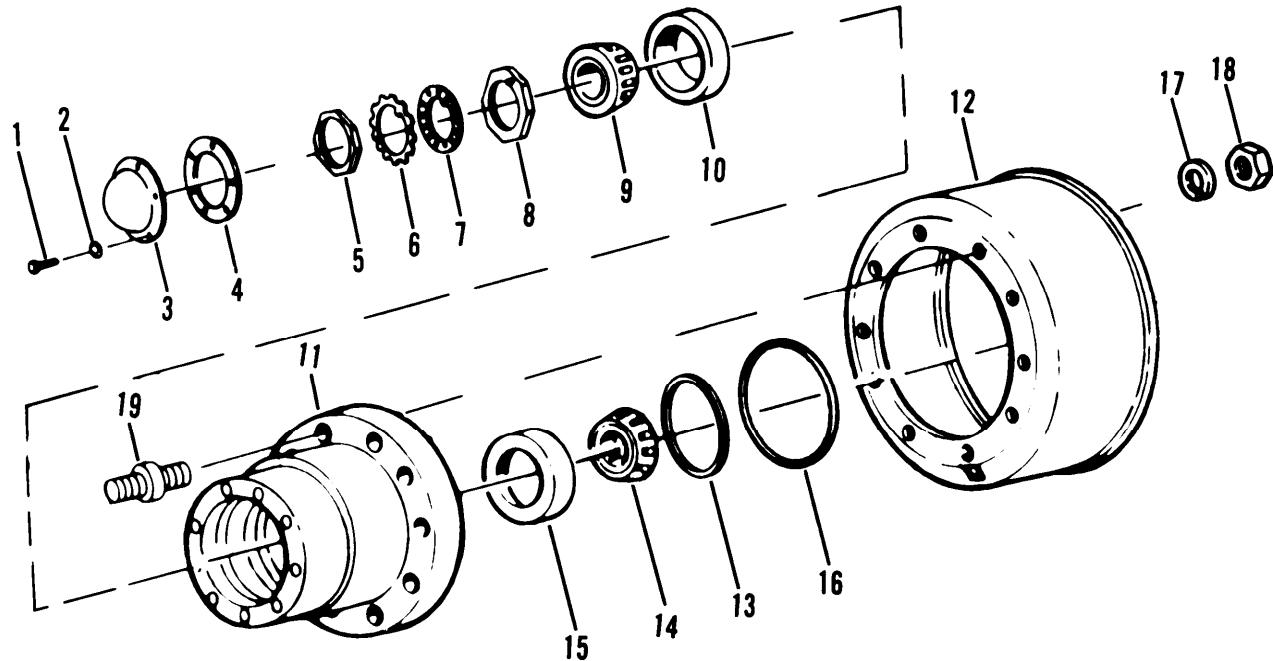

Figure 4-43. Brake Drum and Hub
Callout 6, on figure 4-43 is on the M871 semitrailer
- (1) Remove six screws (1, fig. 4-43), six washers (2), hub cap (3) and gasket (4). Discard gasket (4).
- (1) Install ten studs (19, fig. 4-43) with short side from shoulder facing in the hub (11).
- (2) Install hub (11) on brake drum (12).
- (1) Install inner nut (8, fig. 4-43) with locking guide pin out and torque to 75 lb ft (103 Nm) while rotating hub and drum assembly. Back off one turn and repeat 75 lb ft (103 Nm) torque. Back off 1/4 turn.